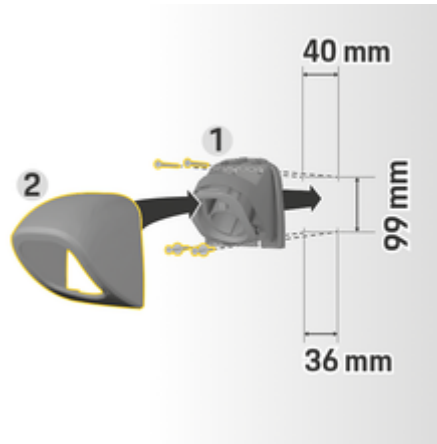

Fig. 28: Drilling dimensions
1. Remove the connector fastener **1** (Fig. 28) from the cover **2** (Fig. 28).
4. Screw the connector fastener **1** (Fig. 28) onto the wall.
5. Fit the cover **2** (Fig. 28) onto the connector fastener **1** (Fig. 28) from below and push up.